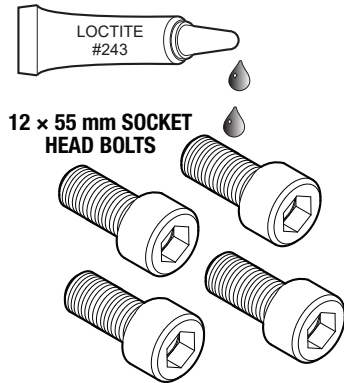

Figure 31. Applying Loctite® 243™ (Side Cover Bolts)
17. Apply Loctite® 243™ to the male threads on the four 12 × 55 mm socket head bolts that were removed earlier from the side cover (Figure 31).